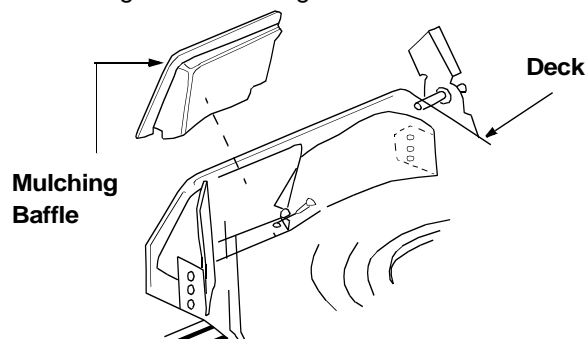

Figure 8
- To remove the mulching baffle, lift the rear discharge door on the mower. Remove the mulching baffle. See Figure 8.
- Lift the rear discharge door and install the mulching baffle. See Figure 8.